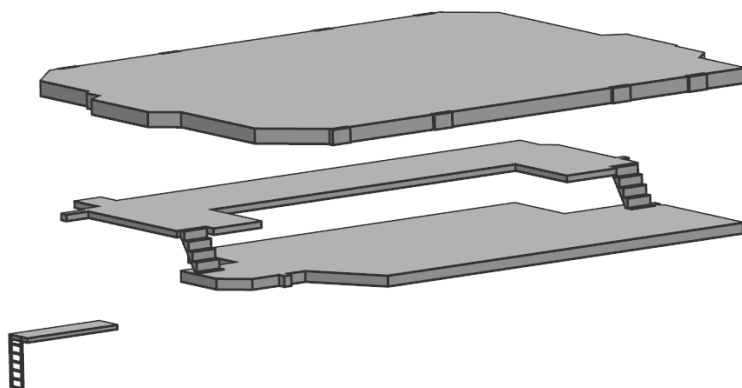

Figure 3-9: The 3D CAD model of the Platform Outline View (DG 7602-02) for a 7X82-2.0 engine
1. The platform dimensions and platform contour which are final design and available in 3D CAD format (see Figure 3-9)